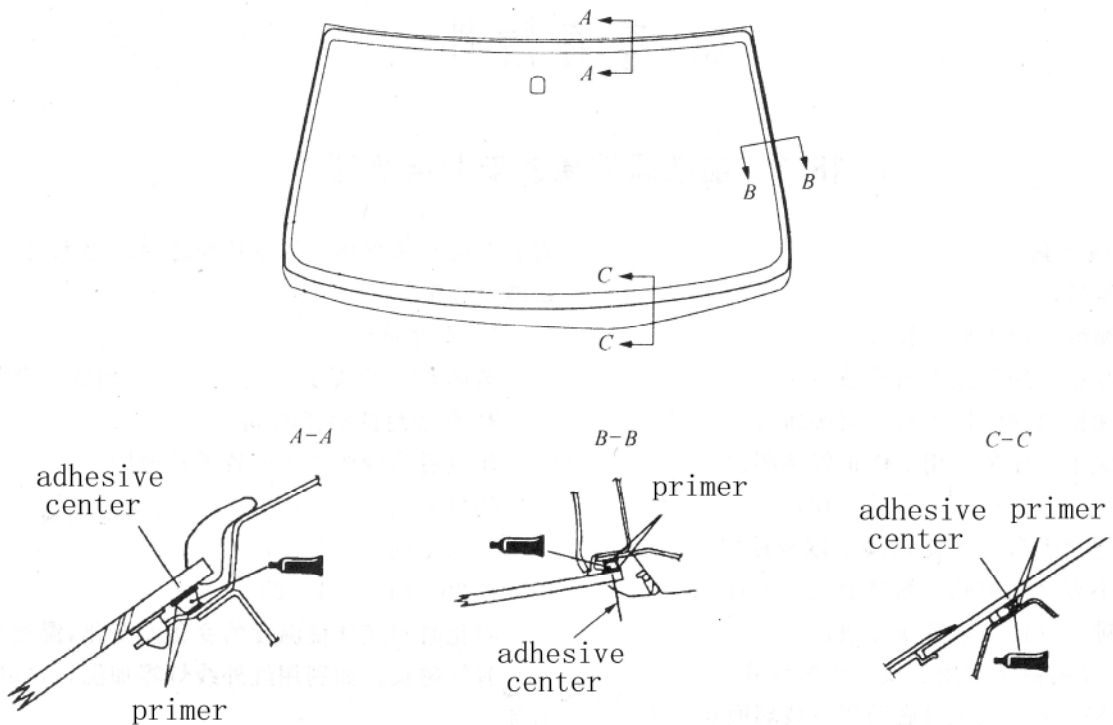

Fig. 18-1
4. The disassembly of windshield glass (See the figure18-1)